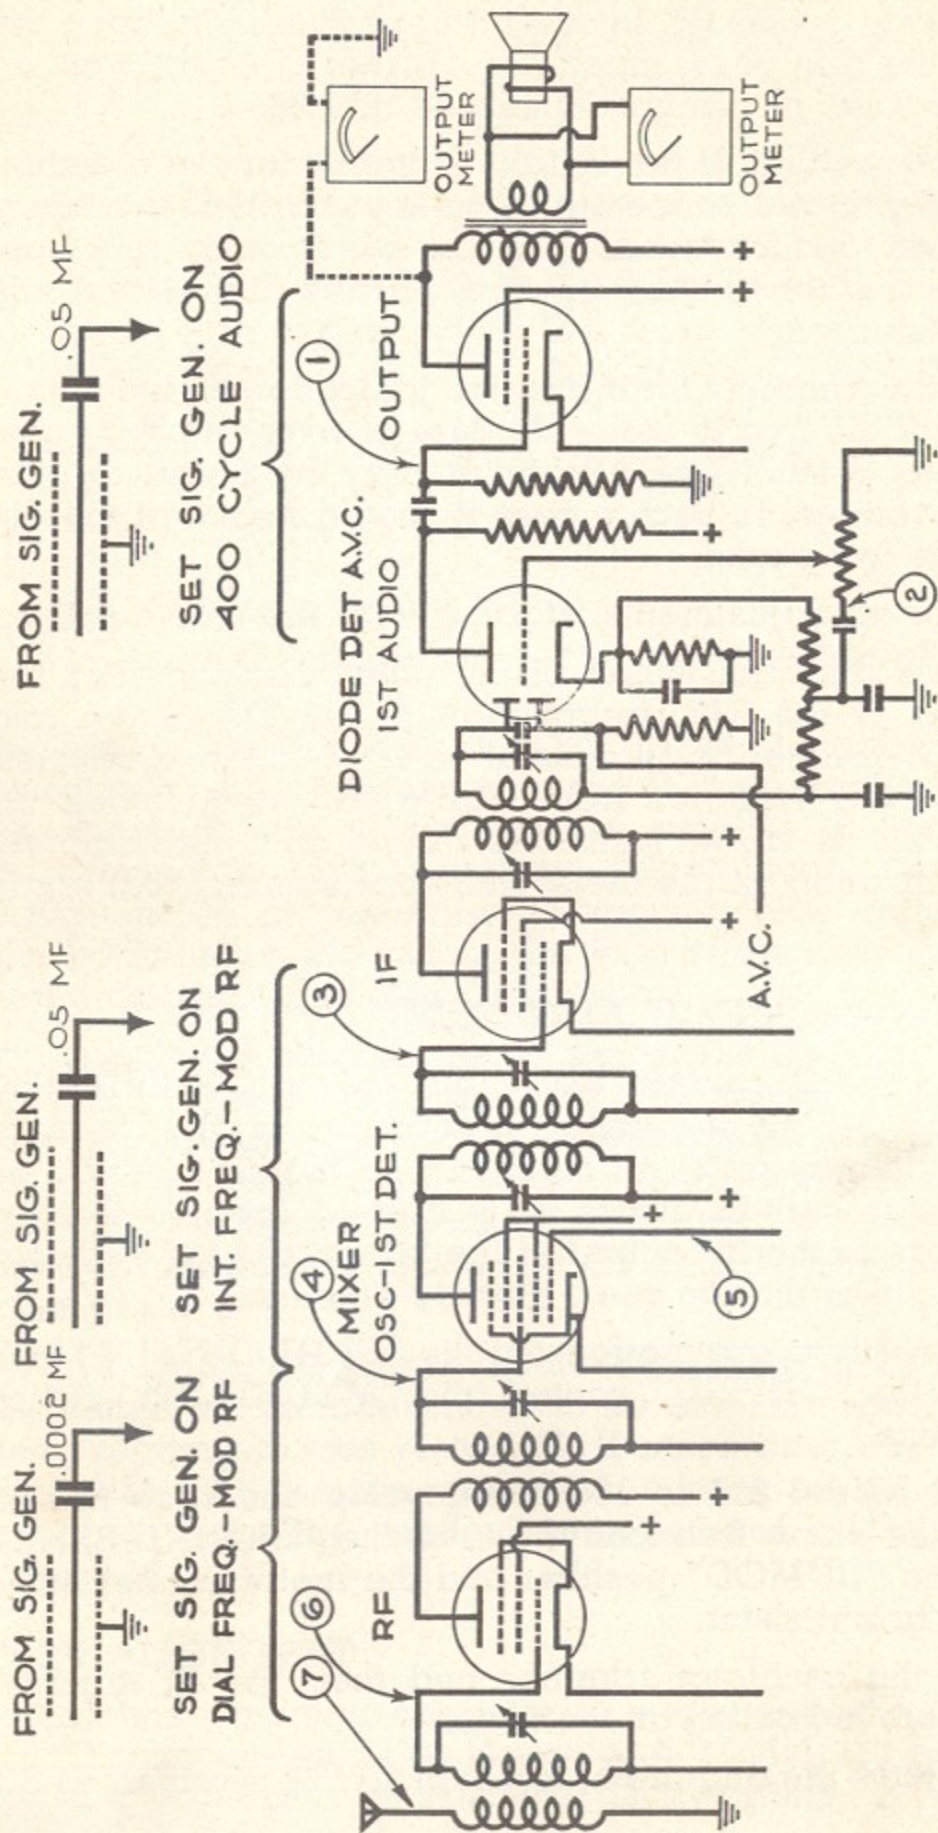

Figure 5 Simplified Circuit of a Superheterodyne Radio Receiver Showing Location of Test Points
An alternate method is to use the Model 340 with an output meter such as the Simpson Model 260 or a vacuum tube voltmeter such as the Model 266. In this case, the output meter is connected to the output of the radio receiver and the signal generator connected to the input of the output stage first. It is then moved along stage by stage toward the antenna section and a fault in any stage will be indicated by the failure of the signal to come through. This method will be described in the following paragraphs as applied to a superheterodyne receiver consisting of one RF stage, mixer, one IF stage, diode detector and first audio, and output stage, the simplified schematic of which is shown in Figure 5. Before starting, test all tubes and make the usual voltage measurements.
2. Connect the output meter to the output of the radio receiver as shown in Figure 5. It can be connected across the voice coil as shown by the solid lines and set on the 2.5 volt AC range or connected between the output plate and ground as shown by the dotted lines and set on a higher range.
3. Connect the output lead from the signal generator to the grid of the output stage through a condenser of approximately .05 MF capacity at point (1) in Figure 5.
Change the output lead from the signal generator from point (1) in Figure 5 to point (2), the input to the volume control. Make connection through a .05 MF condenser and turn the volume control all the way up. If this stage is functioning, a signal will be heard in the speaker and a reading obtained on the output meter. For the same output reading as obtained in step (a), a lower output setting of the signal generator will be required. This is due to the gain of the triode section of the 2nd detector which in a tube such as the 6SQ7 may be from 20 to 50 times. This is additional proof that the stage is operating properly.
Move the output connection of the Model 340 to the input grid of the first detector, point (4) in Figure 5. Leave the signal generator tuned to the intermediate frequency and connect it through the .05 MF condenser. A signal from this point shows that the first detector is functioning but does not eliminate the oscillator as the cause of trouble. The receiver dial should be tuned to the low frequency end of the band.
If no signal is obtained, the oscillator may be checked further by setting the receiver dial to a local broadcast station and connecting the signal generator to the oscillator plate, point (5) in Figure 5, tuning it to a frequency higher than that of the broadcast station by the amount of the intermediate frequency. For example, if the broadcast station is at 1000 KC,
To check the RF stage, connect the output of the Model 340, tuned to the frequency of the radio dial and set on "MOD. R.F.", to the input grid of the RF tube, point (6) in Figure 5, through a .0002 MF condenser. If this stage is operating, a signal will be heard and a reading observed on the output meter. The gain of the stage will be indicated by lower settings of the Model 340 output controls needed to produce the same reading on the output meter as obtained from point (4).
The last step is to check the antenna coil. Move the Model 340 output connection from point (6) to point (7) in Figure 5, leaving all settings the same. Make connection through a .0002 MF condenser or a dummy antenna as shown in figure 2 c. Little, if any, gain will be observed at this point. Automobile receivers, however, will show more gain.
2. Connect the output lead of the signal generator to the grid of the last IF amplifier tube through a .05 MF condenser as shown at point (3) in Figure 5.
1. Leave the Model 340 on "MOD. R.F." and tuned to the intermediate frequency and connect the output lead through a .05 MF condenser to the input grid of the first detector, point (4) in Figure 5.
3. Make a record of the settings. These may be X1 for the multiplier and 100 for the output control. The gain between points (4) and (3) can therefore be expressed as $\frac{100 \times 50}{1 \times 100} = 50$.